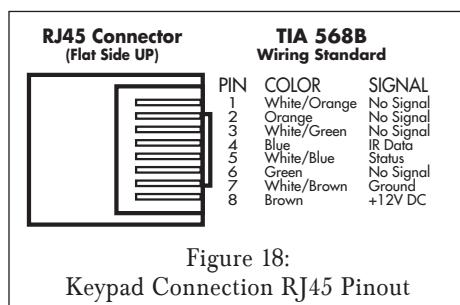

Figure 18:
- Terminate each CAT5 cable with RJ45 connectors on each end. Follow the TIA 568B wiring standard (see *Figure 18*).